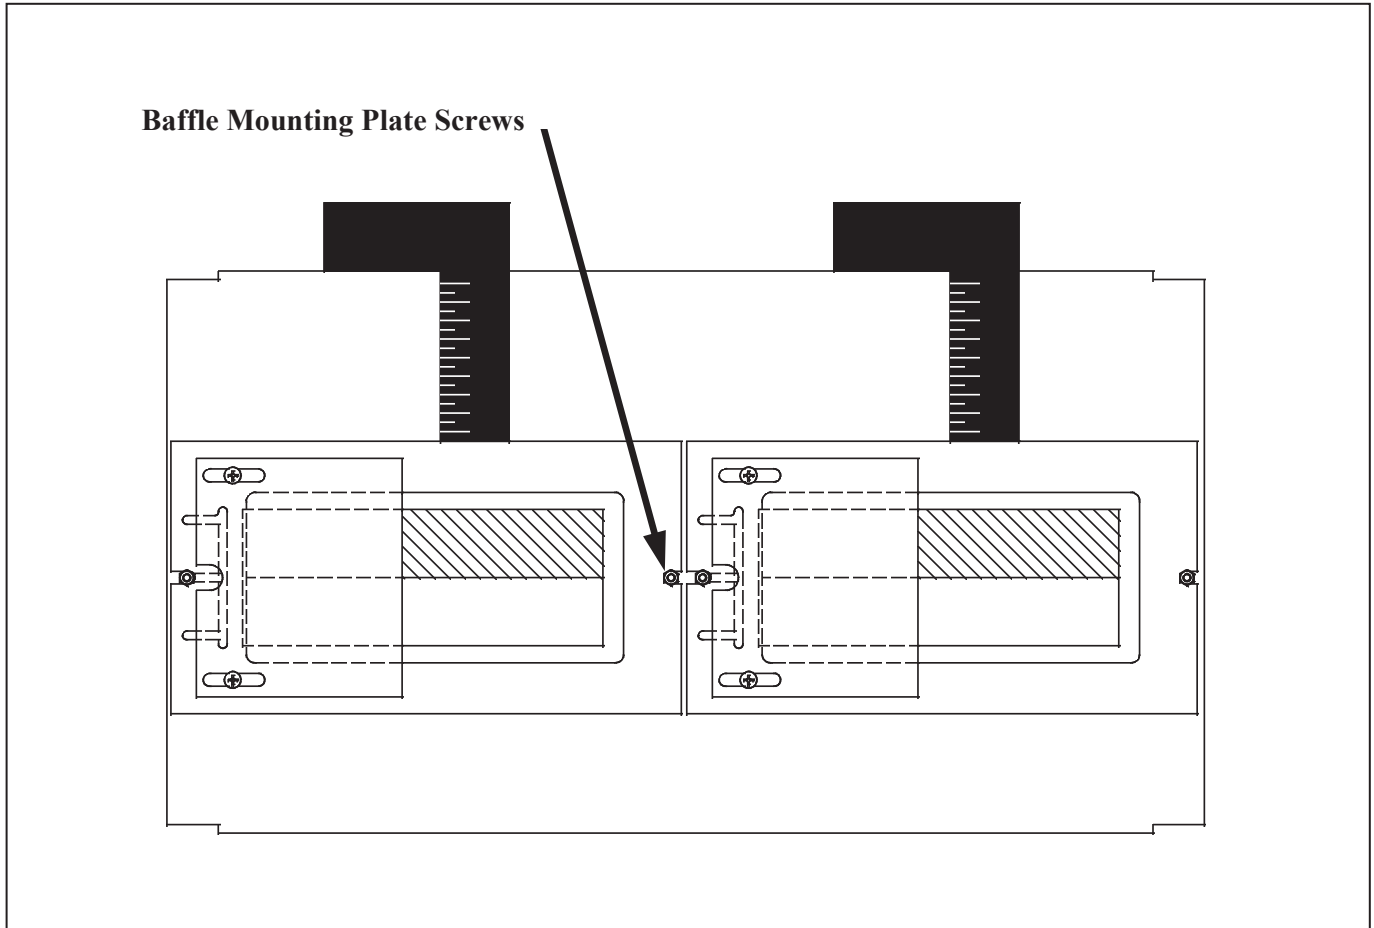

Figure 4. Squaring Top Edge of Baffle Mounting Plate
6. Take a combination square or machinists' square of appropriate length, and square the Baffle Mounting Plate with the top edge of the filter mounting bulkhead plate. See Figure 4.